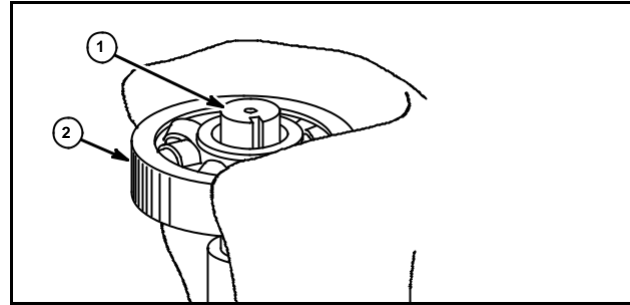

Fig. 12
3. Grasp bearing (2) with the shield down and slip on the crankshaft bearing journal (1), Fig. 12.